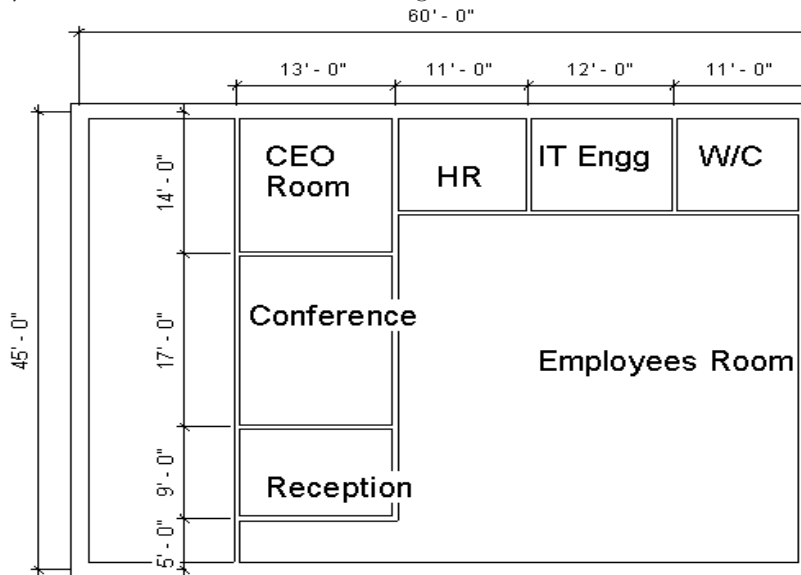

Figure 3-86 Selecting the interior wall type from the **Properties** palette
8. Similarly, sketch other walls as shown in Figure 3-86.